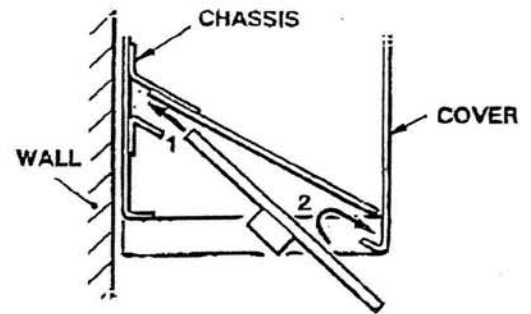

Figure 6
- 6 The filter can now be fitted. Slide the filter up into the channel inside the back of the unit (1) then lift the front of the filter against the guides at each end of the chassis and slide the filter forwards to rest against the cover (2). A small handle is moulded into each end of the filter (see fig. 6).